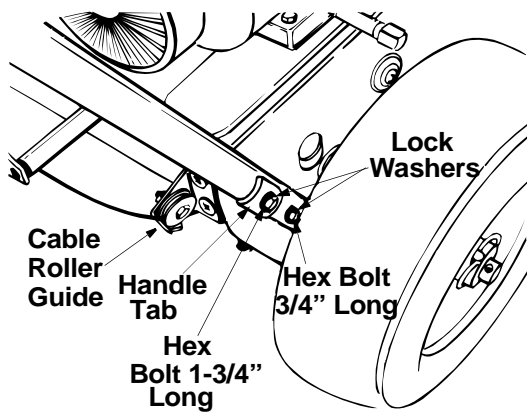

Figure 9
- Raise the handle assembly into the upright position and align the top holes in the handles with the top holes in the snow thrower frame. Attach using hex bolts 1 3/4" Long, lock washers and saddles. (Curve in saddle must match the curve in the handle.) See Figure 9.